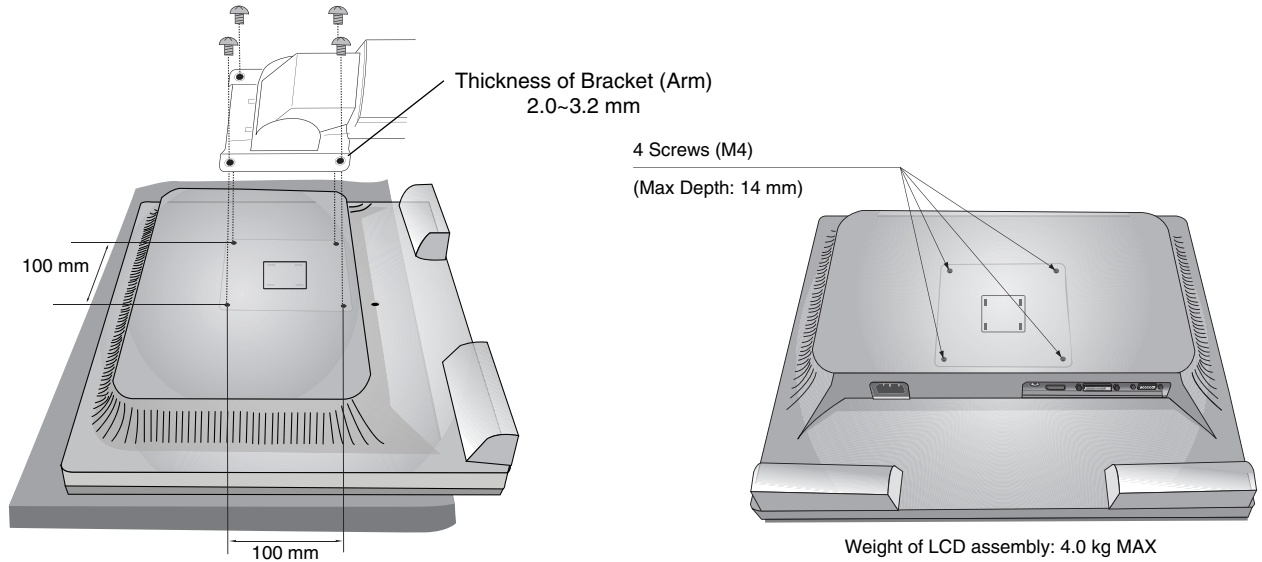

Figure F.1
2. Use the 4 screws removed from the stand to attach the arm to the monitor (**Figure F.1**).